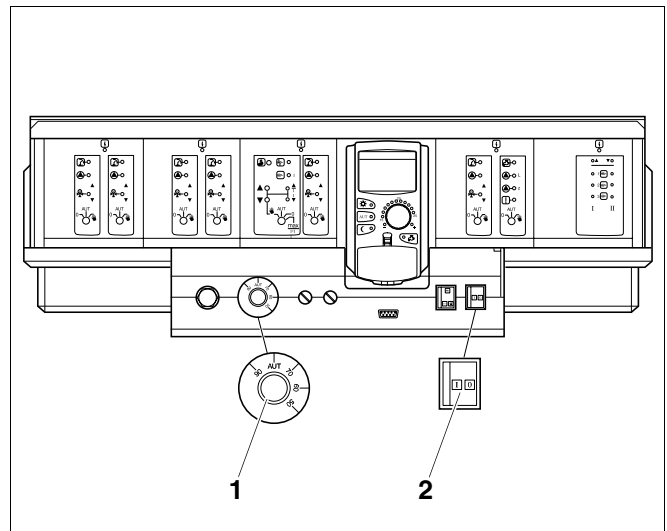

Fig. 15 Logamatic 4000 control unit
- Set the ON/OFF switch (Fig. 15, **Item 2**) to "0" (OFF).